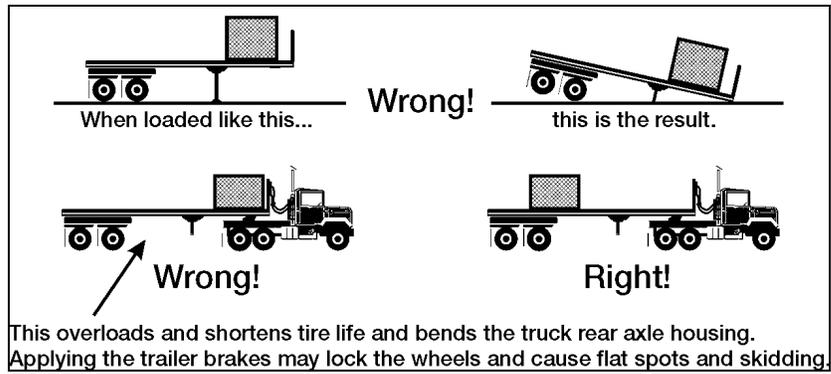

Figure 3-52a. Load Balancing
- (1) Ensure that cargo is placed on vehicle with the heaviest items on the bottom and spread evenly across the vehicle both longitudinally and laterally (see Figures 3-52a and 3-52b).
- (2) Ensure items are not stacked too high to allow for the lowest center-of-gravity.
- (3) If the load extends more than 4 feet beyond the end of the bed, ensure that a red flag (measuring not less than 12 x 12 inch square) is attached to the load. During nighttime, use a red light (if tactical situation permits).
- (4) Check vehicle data plate and TM to ensure that vehicle weight and cube limitations have not been exceeded.